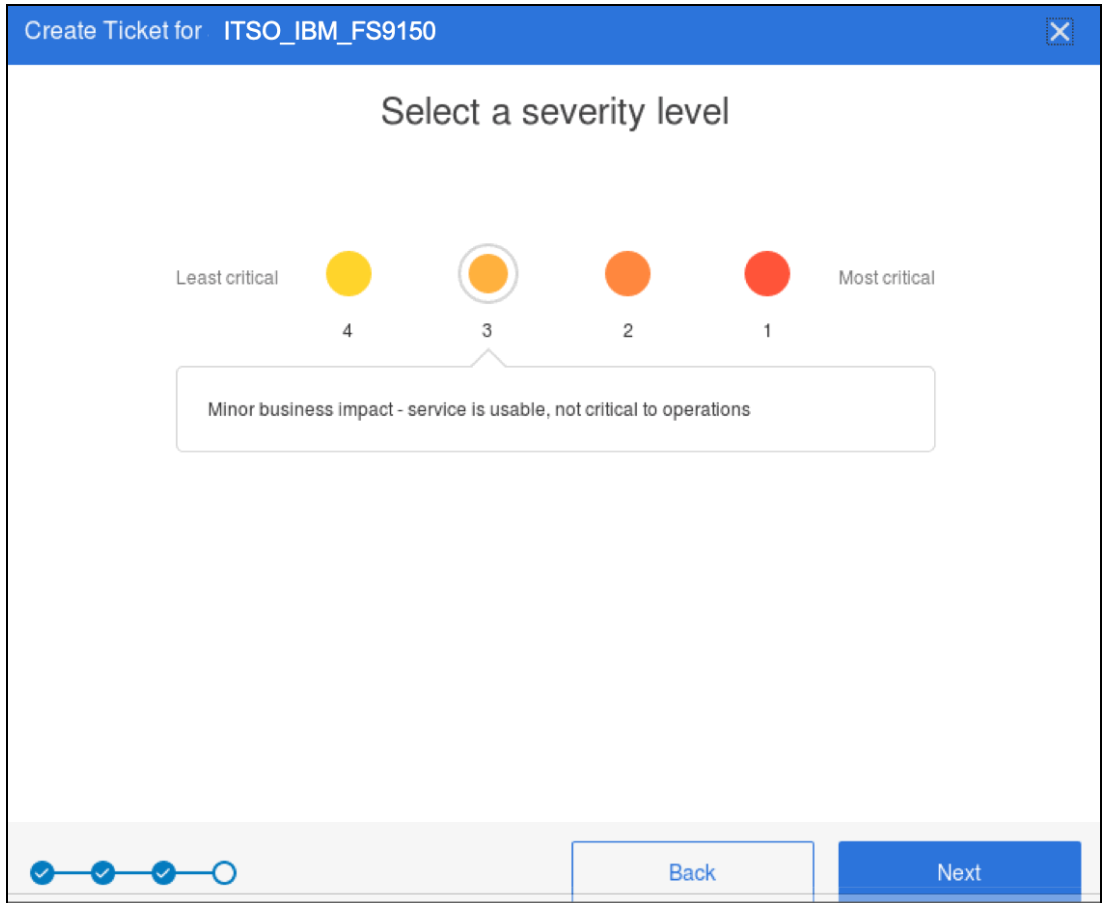

Figure 11-16 Set severity level
9. prompts you to Set a severity level for the ticket, as shown in Figure 11-16 on page 517. Severity levels range from severity 1 (for a system down or extreme business impact) to severity 4 (for non-critical issues).